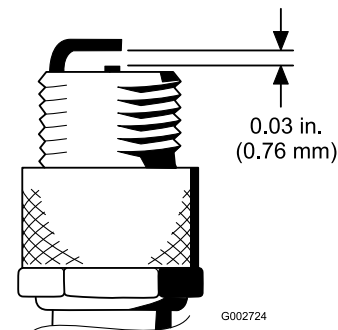

Figure 19
- Set the air gap between the center and side of the electrodes at 0.030 in. (0.76 mm) (Figure 19). Install the correctly gapped spark plug with gasket seal, and tighten the plug to 200 in-lb (23 N·m). If a torque wrench is not used, tighten the plug firmly.